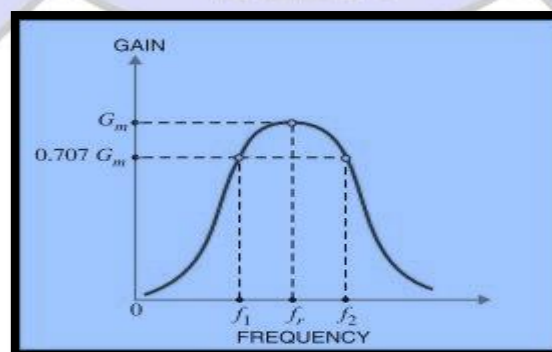

Figure 5-4.
(2) Frequency response. The voltage gain of an amplifier varies with signal frequency. It is because reactance of the capacitors in the circuit changes with signal frequency and hence affects the output voltage. The curve between voltage gain and signal frequency of an amplifier is known as frequency response. Fig. 5.4 shows the frequency response of a typical amplifier. The gain of the amplifier increases as the frequency increases from zero till it becomes maximum at f_r , called resonant frequency. If the frequency of signal increases beyond f_r , the gain decreases
(3) Bandwidth. The range of frequency over which the voltage gain is equal to or greater than *70.7% of the maximum gain is known as bandwidth. The voltage gain of an amplifier changes with frequency. Referring to the frequency response in Fig. 5.4, it is clear that for any frequency lying between f_1 and f_2 , the gain is equal to or greater than 70.7% of the maximum gain. Therefore, $f_1 - f_2$ is the bandwidth. It may be seen that f_1 and f_2 are the limiting frequencies. The former (f_1) is called lower cut-off frequency and the latter (f_2) is known as upper cut-off frequency. For distortionless amplification, it is important that signal frequency range must be within the bandwidth of the amplifier.